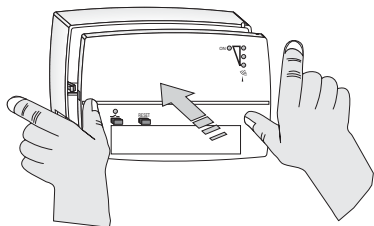
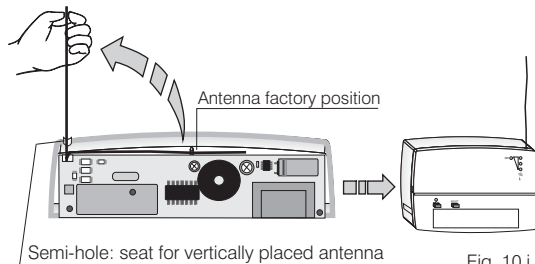

Fig. 9.i
Fig. 10.i
- Push the front on to the base using both hands as shown in figure 9.i , until the catches click and lock the front to the base.
- Pass the wire through the small semi-hole provided for the purpose (fig. 10.i)
- Carefully reclose the receiver (fig. 9.i - fig. 10.i).